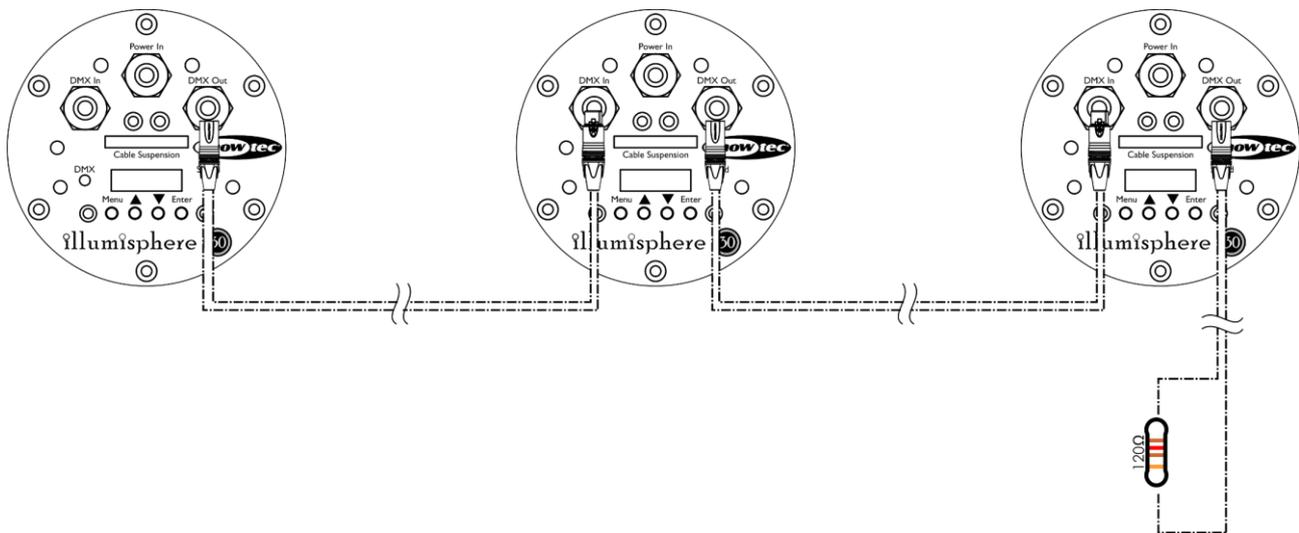

Fig. 07
- 02) Repeat step 1 to connect all devices as shown in Fig. 07. The first connected device will be automatically recognized as the master device.